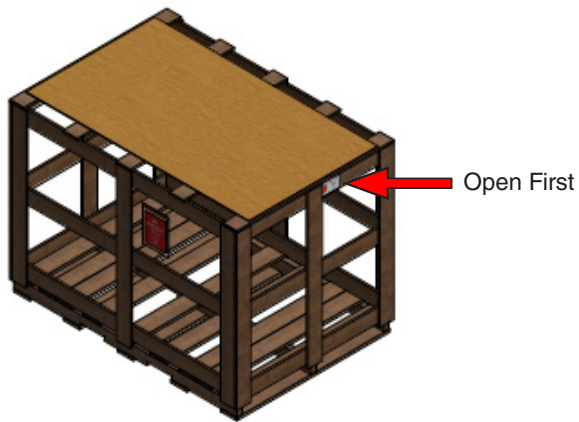

Figure 5.1a: This crate has a flat top.
- All Q-FOG testers are shipped in one of two types of crates (Figure 5.1a) and Figure 5.1b).